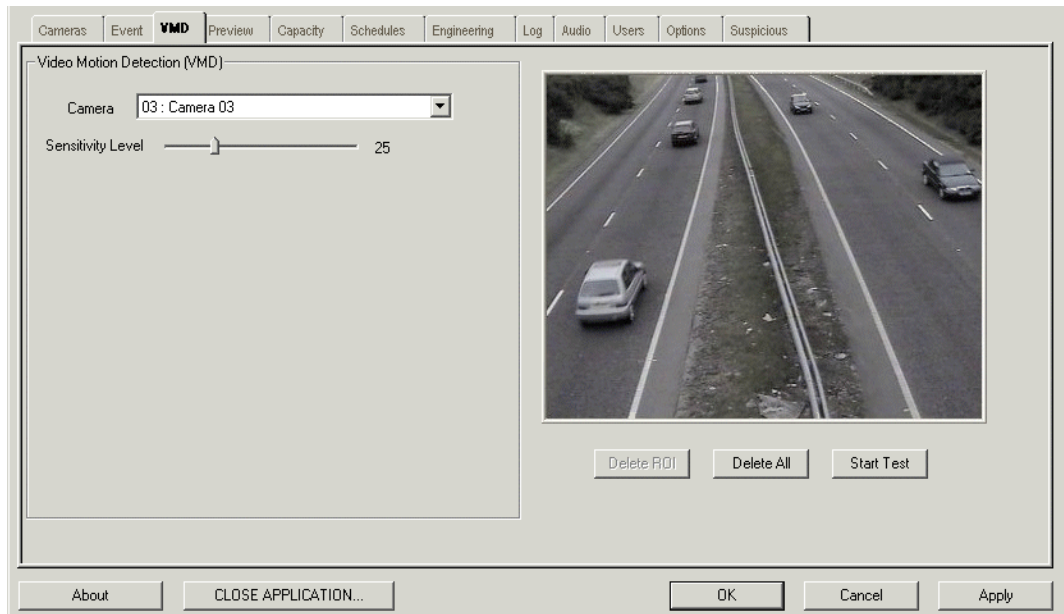

Figure 6-2: Configuring basic VMD for a camera
1. Open the VMD menu of the Configuration Console as shown in Figure 6-2.